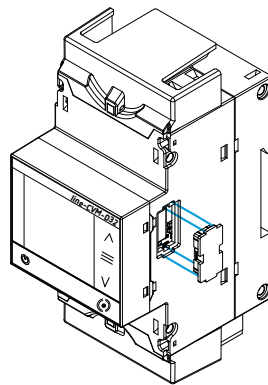

Figure 3: Installation step 1.
1.- Using a flat head screwdriver, remove the expansion connector's protective covers located on the side of the devices, (**Figure 3**).